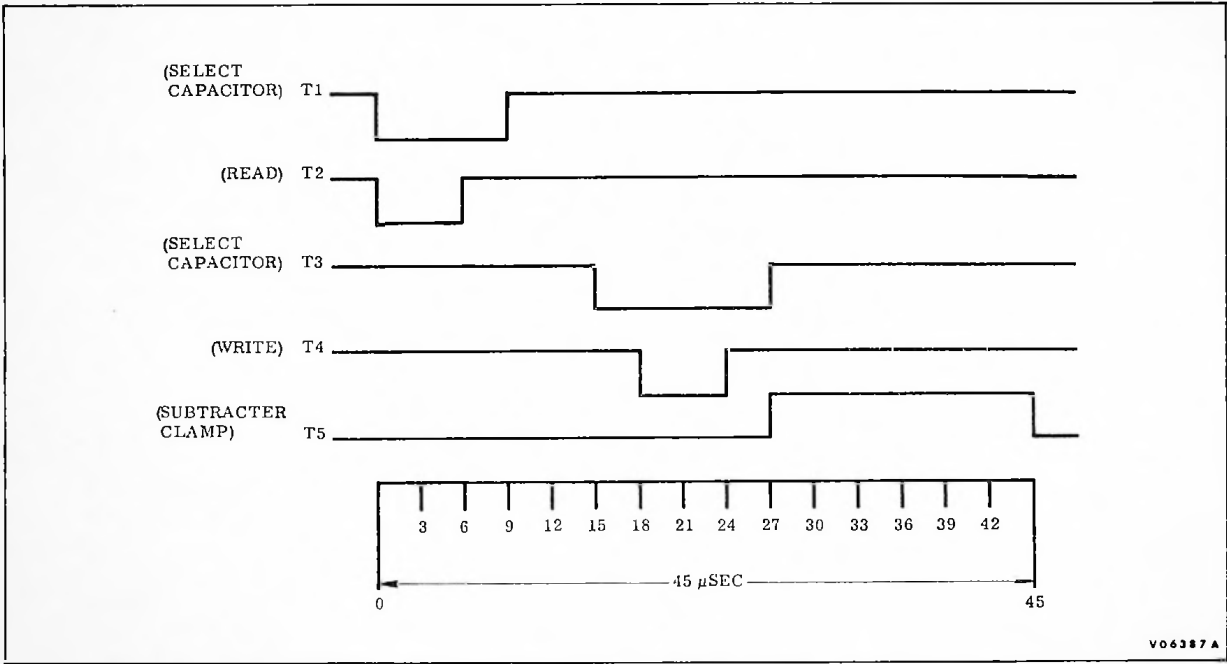

Figure 4.2-8. Pulse Timing Diagram
4.2-49 The timing generator provides timing pulses T1 through T5 (Figure 4.2-8). Pulse T1 determines time of selection of memory capacitor for the read function. T2, which takes place during T1, determines duration of actual reading. Pulse T3 determines time of selection of memory capacitor for the write function; while T4, which takes place during T3, determines duration of actual writing. In both reading